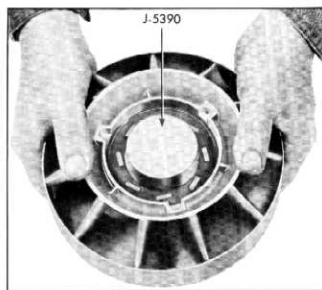

Fig. 179—Use of Loading Tool to Assemble Stator
4. Coat stator race and loading tool, J-5930, with a light film of oil; then place stator race on pilot end of loading tool and carefully rotate stator over tapered end of loading tool and stator race (fig. 179). Be careful not to dislodge rollers.